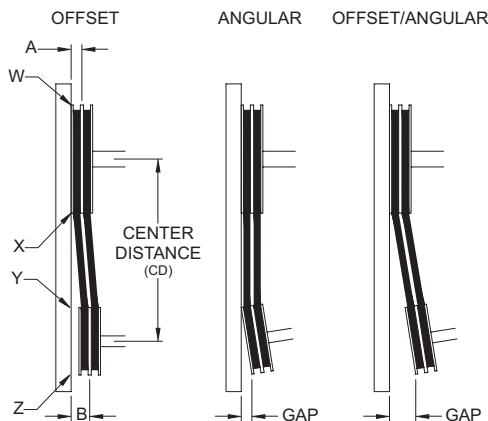
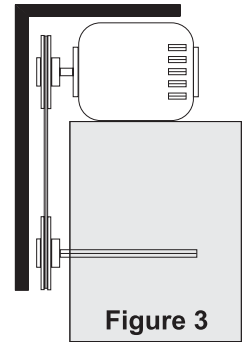

Figure 2
Figure 3
4. Ensure pulleys are properly aligned. Refer to Figure 2.
Figure 2 indicates where to measure the allowable gap for the drive alignment tolerance. All contact points (indicated by WXYZ) are to have a gap less than the tolerance shown in the table. When the pulleys are not the same width, the allowable gap must be adjusted by half of the difference in width (as shown in A & B of Figure 2). Figure 3 illustrates using a carpenter's square to adjust the position of the motor pulley until the belt is parallel to the longer leg of the square.